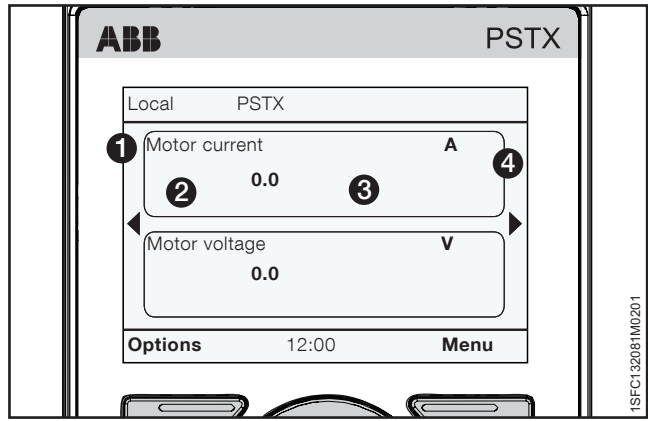

Figure 6.21
Select the display style for the home view. The selected display style is shown by ② in Figure 6.21.
Push "Save" to save the value. Decimal numbers are shown in ③ in Figure 6.21.
Push  "Save" to save the display name. Display name is shown by ① in Figure 6.21.
Push  "Save" to save the value. Value is shown by ③ in Figure 6.21.
Display signal min as - Push  "Edit" to select the scaled minimum value in the Home view. Use the Navigation keys to change the value, Push  "Save" to save the value. See ③ in Figure 6.21.
Display signal max as - Push  "Edit" to select the scaled maximum value to show in the Home view. Use the Navigation keys to change the value, Push  "Save" to save the value. See ③ in Figure 6.21.
to save the Home view unit name. See ④ in Figure 6.21.